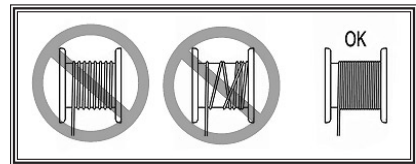

Figure 9. Proper cable winding.
6. Use the control switch to retract the cable. Watch the cable as it winds up on the hoist spool. To prevent damage to the hoist cable, make sure that the cable is wound evenly, as shown in **Figure 9**.